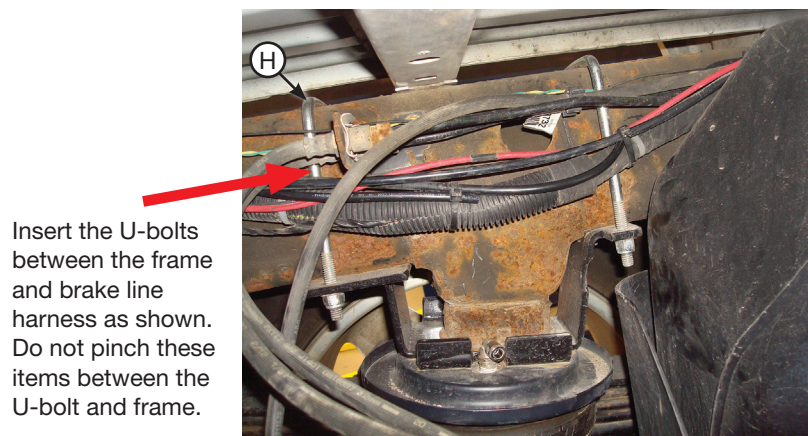

fig. 13
- Insert two U-bolts (H) onto the top of the frame and through the upper bracket mounting holes (Fig. 13). The U-bolts must be between the frame and the brake lines and wiring.
THE DRIVER'S (LEFT) SIDE HAS A BRAKE LINE AND A WIRING HARNESS RUNNING ALONG THE INSIDE OF THE FRAME. MAKE SURE THE U-BOLT IS BETWEEN THESE ITEMS AND THE FRAME (DO NOT PINCH THESE ITEMS) (FIG. 13).